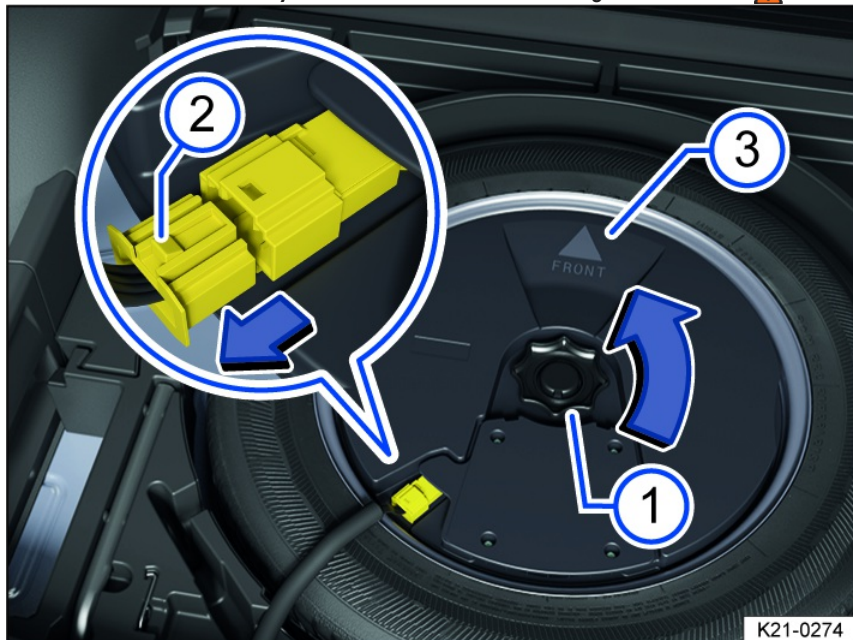

Fig. 170 In the luggage compartment: Removing the subwoofer.
3. Unscrew the handwheel *fig. 170* in the direction of the arrow.
4. To release the connector, press the locking mechanism on the end of the connector *fig. 170*.
1. Place the subwoofer carefully in the rim well. The point of the "FRONT" *fig. 170* arrow symbol on the subwoofer must face forward.
2. Connect the connector until the lock *fig. 170* latches into place.
3. Turn the handwheel *fig. 170* on the threaded pin in the opposite direction to the arrow until the subwoofer is securely fastened.